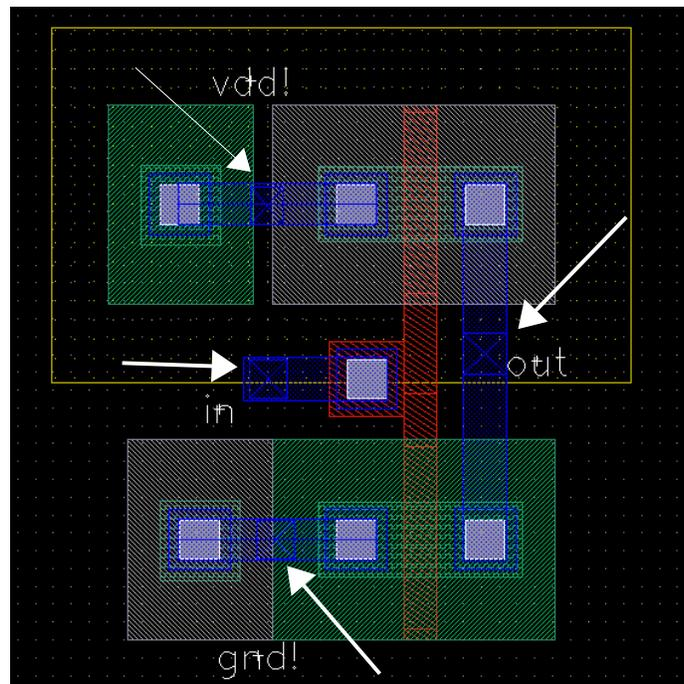

Fig. 10: Inverter Layout with Pins
7. Figure 10 shows the final layout. Verify your layout with DRC.